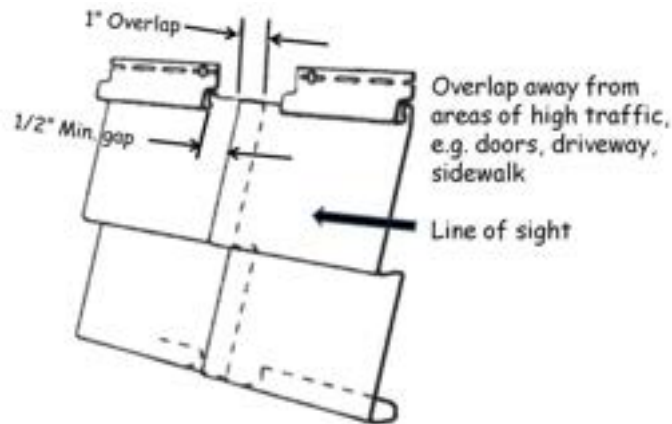

Figure 11-17. Siding Overlap.
2. Install siding with a 1" overlap between pieces and a minimum of ½" space between the top lock of the underlapping piece and the end of the overlapping piece (see Figure 11-17). Maintain a ¼" gap (⅜" when temperatures are below 40° F) at the corners (to allow for expansion) and ends of pieces, including corner posts, J-channel, J-blocks, windows, etc. Overlap the siding pieces such that in high traffic areas one cannot see into the overlapped joint.